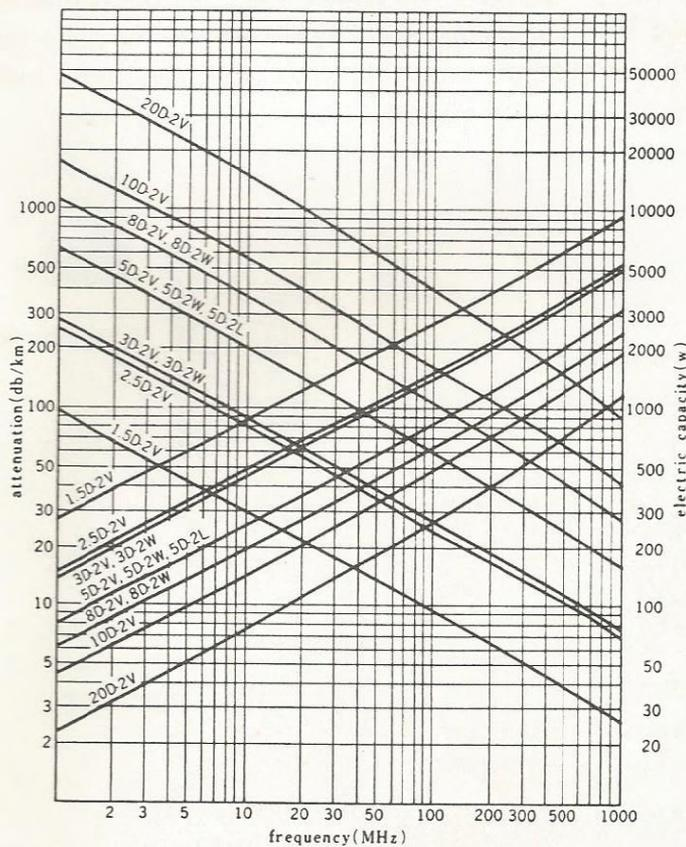

Figure 15-1
2. The coaxial cable should be preferably as large as possible in size. If the cable length is less than 5m, use RG-58U, 5D-2V, etc. If the cable length is longer than 5m, use RG-8U, 8D-2V, 10D-2V, etc. See Fig. 15-1 below.